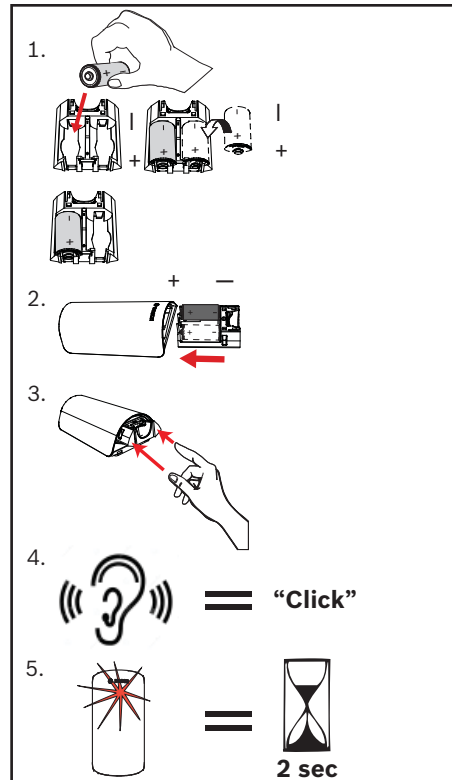

Figure 6.1: Battery insertion
2. Slide the tray in until the top of the tray is flush with the top of the detector body and you feel it “click” into position. The LED stays lit for 2 seconds immediately after the battery “clicks” into place. Refer to battery insertion sequence in *Figure 6.1*.